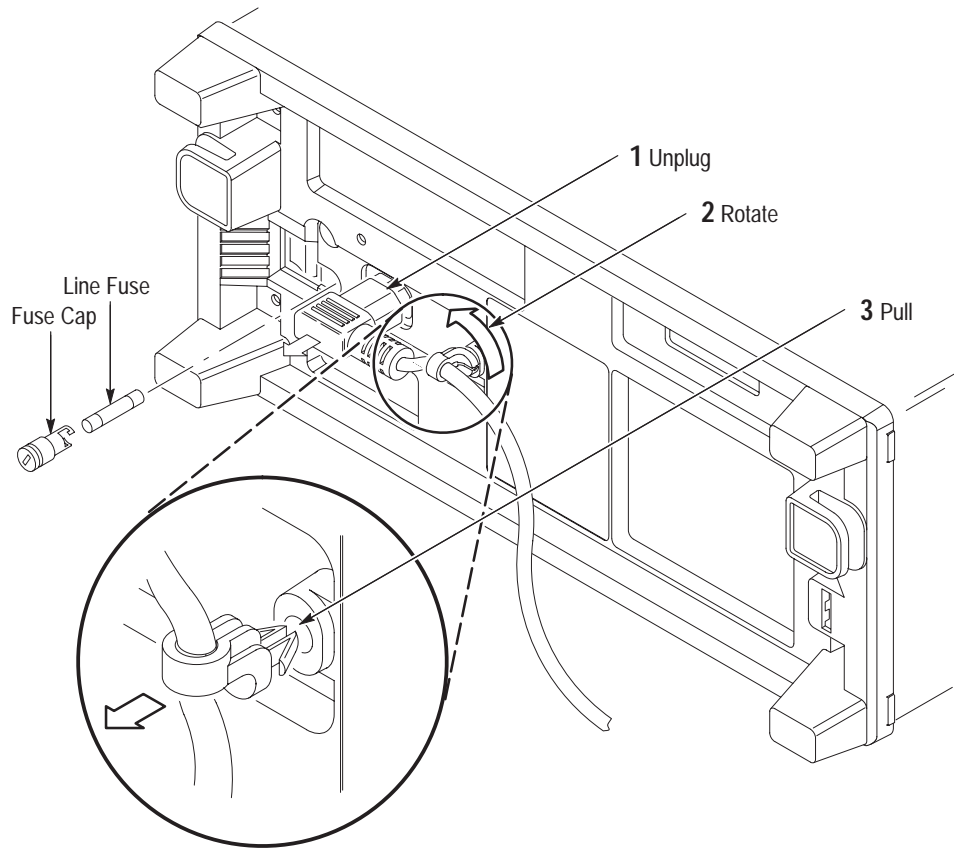

Figure 6-5: Line fuse and line cord removal
3. *Remove line fuse:* Find the fuse cap on the rear panel. (See Figure 6-5.) Now, remove the fuse cap by turning it counterclockwise using a flat-bladed screwdriver, and remove the line fuse. Reverse procedure to reinstall.
4. *Remove line cord:* Find the line cord on the rear cover. (See Figure 6-5.) Now, remove the line-cord retaining clamp by first unplugging the line cord from its receptacle. Next, grasp both the line cord and the retaining clamp and rotate it 90 degrees counterclockwise. Pull the line cord and clamp away to complete the removal. Reverse procedure to reinstall.